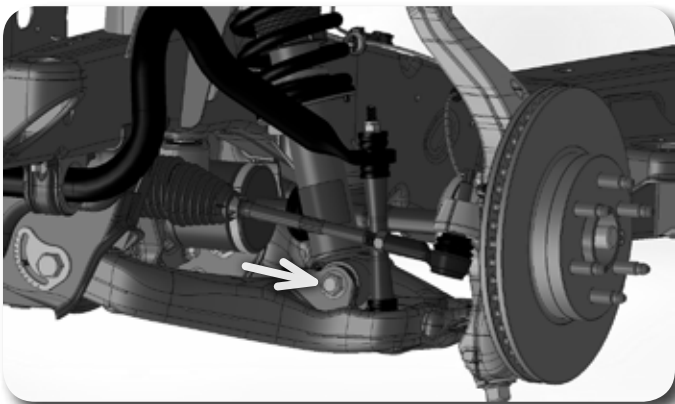

Figure 4
5. Remove the lower strut bolt. **Figure 4**